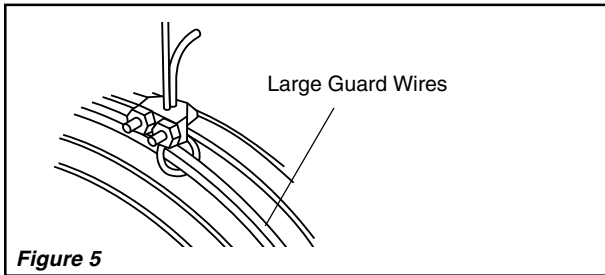

Figure 5
1. Loop one end of Cable around the Large Diameter Wires of both the Front and Rear Circulator Guard. (Figure 5)
2. Attach a Cable Clamp with the "U" on the tail side of the loop leaving a tail approximately 1 to 2 inches. Tighten Clamp Nuts. Make sure no part of the Cable interferes with the Blade. (Figure 5)